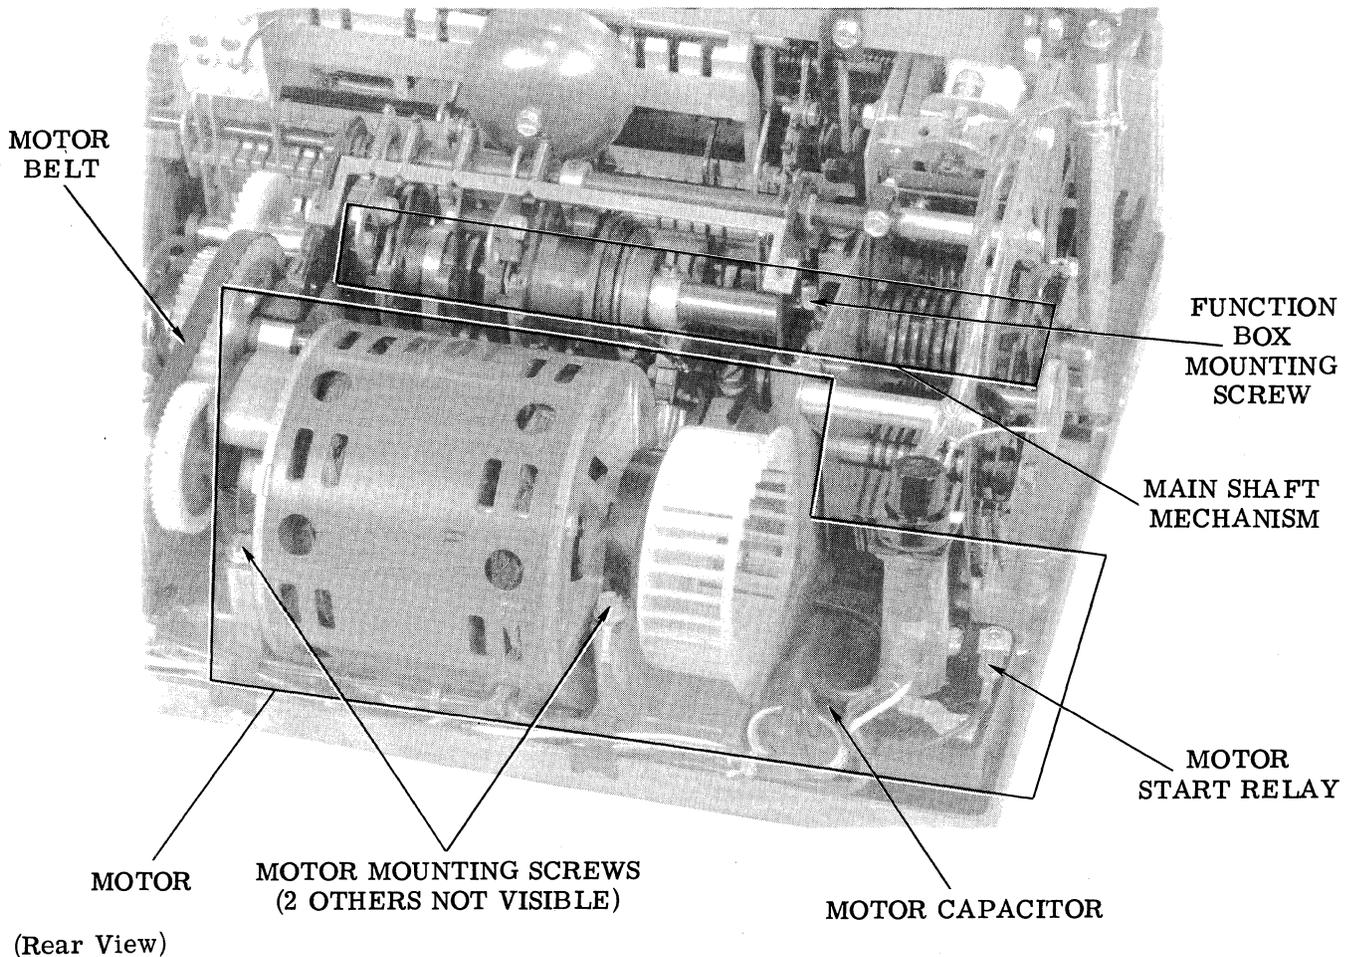

Figure 8 - Typing Unit
2.18 To remove main shaft mechanism (Figure 8), proceed as follows.
2.19 To remove motor (Figure 8), proceed as follows.